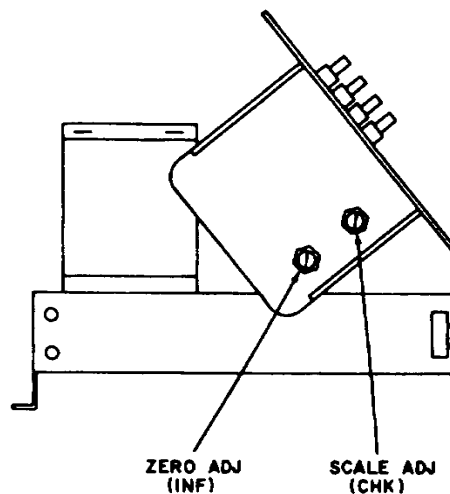

Figure 1. Megohmmeter - left view.
- i. Press and hold **TEST VOLTAGE** switch and adjust internal **ZERO ADJ (INF)** control (fig. 1) for **INFINITY** indication on **MEGOHMS** meter. Release **TEST VOLTAGE** switch.
(17) Turn TI **MULTIPLIER** switch to **X100**.
(18) Remove all resistance standards from equipment setup and connect resistance standard no. 4 for 100 MΩ to TI, using three appropriate leads.
(19) Repeat (9) above.
(20) Press and hold **TEST VOLTAGE** switch and adjust **DC ADJUST** control until **VOLT** meter indicates 0.5 on upper (**MULTIPLY MEGOHMS BY**) scale. TI **MEGOHMS** meter scale will indicate between 1.9 and 2.1.
(21) Repeat (17) through (20) above, except use **MULTIPLIER X1K** switch position and resistance standard no. 5 connected for 1000 MΩ. TI **MEGOHMS** meter scale will indicate between 1.9 and 2.1.
(22) Turn TI **MULTIPLIER** switch to **X10K** and remove resistance standard no. 5 from setup.
(23) Connect resistance standard no. 1 to TI **RX +** (plus) and **RX -** (minus) terminals using appropriate cable and adapter. Connect TI **GUARD** terminal to resistance standard case.
(24) Repeat (9) and (20) above. TI **MEGOHMS** meter scale will indicate between 1.9 and 2.1.
b. Adjustments. Adjust **SCALE ADJ (CHK)** control (fig. 1) until TI **MEGOHMS** meter pointer deflects to 2 (**CHK**) red line.